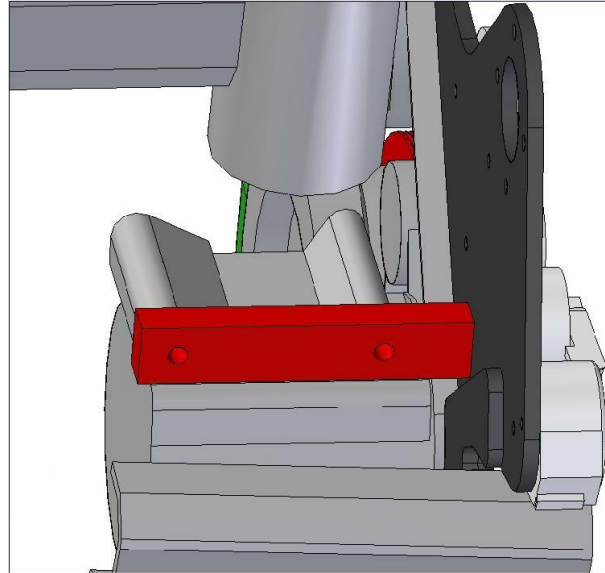

Figure 3
13. Install the supplied bracket mounting block over the OEM alternator and secure with supplied M10 x 120mm bolts and OEM flat washers. Do not fully tighten at this time. See **Figure 3**.